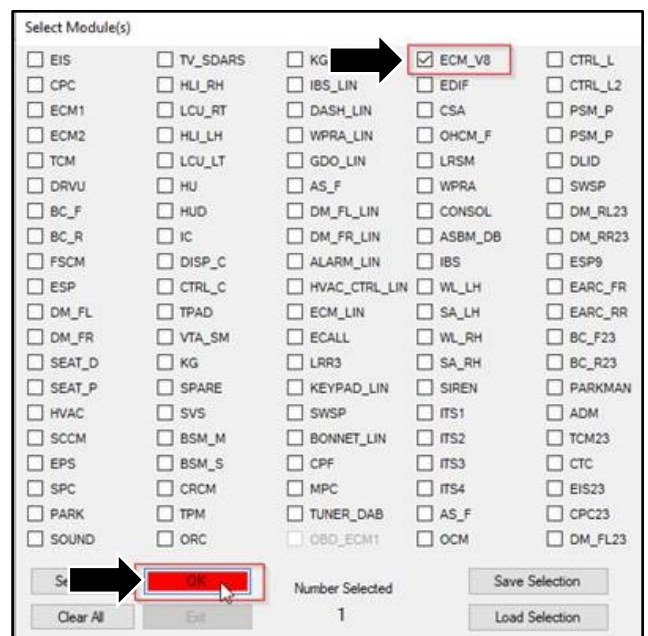

Figure 2
6. Select "ECM\_V8" then click "OK" (refer to Figure 2).